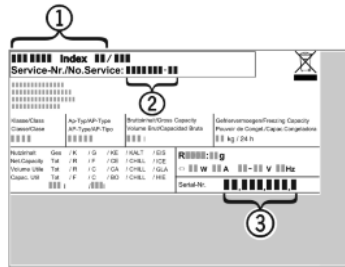

Fig. 13
- ▶ Read the appliance designation *Fig. 13 (1)*, service no. *Fig. 13 (2)* and serial no. *Fig. 13 (3)* from the rating plate. The rating plate is located inside the appliance on the left-hand side.
- ▶ Notify a qualified service provider, specifying the fault, appliance designation *Fig. 13 (1)*, service no. *Fig. 13 (2)* and serial *Fig. 13 (3)* no.